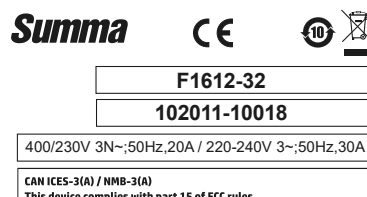

FIG 1-9
6. Insert a media core holder in each end of the media roll. Loosen the core holders with the black knob on the side. Figure 1-9 shows a loosened ❶ core holder and an expanded ❷ core holder.